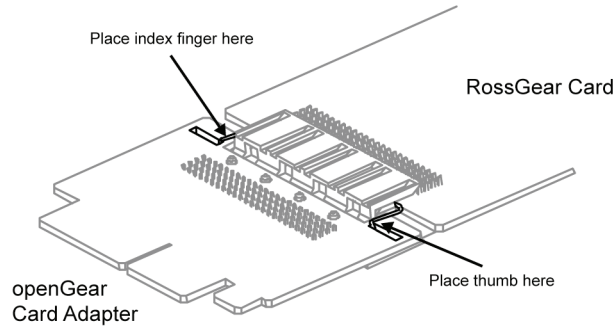

Figure 12. Positioning the openGear Card Adapter and Retaining Clip — Top View
3. Hold the openGear Card Adapter steady, and pinch the openGear Adapter Retaining Clip using the thumb and index finger as shown by the arrows in **Figure 12**.